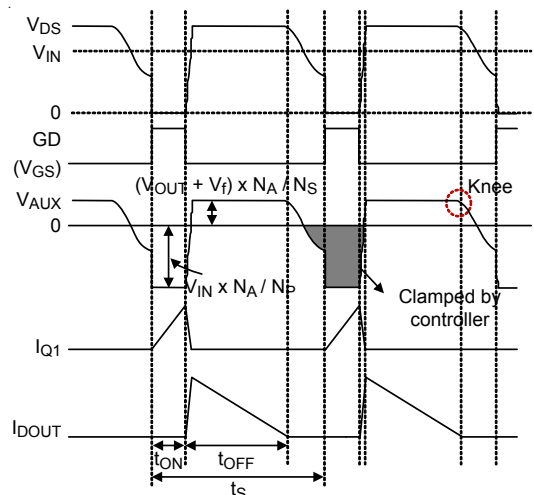

Figure 3. Key Waveforms of a Flyback Converter
The RT7304 needs no shunt regulator and opto-coupler at the secondary side to achieve the output current regulation. Figure 3 shows several key waveforms of a conventional flyback converter in Quasi-Resonant (QR) mode, in which  $V_{AUX}$  is the voltage on the auxiliary winding of the transformer,  $t_{ON}$  is the conducting time of Q1,  $t_{OFF}$  is the conducting time of  $D_{OUT}$ ,  $t_S$  is a single switching period,  $N_P$  is the turns number of primary winding and  $N_S$  is the turns number of secondary winding. When the secondary side current  $I_{DOUT}$  drops to zero, a knee point on  $V_{AUX}$  can be detected and  $t_{OFF}$  can be determined. The average output current ( $I_{OUT}(t)$ ) can be derived by :